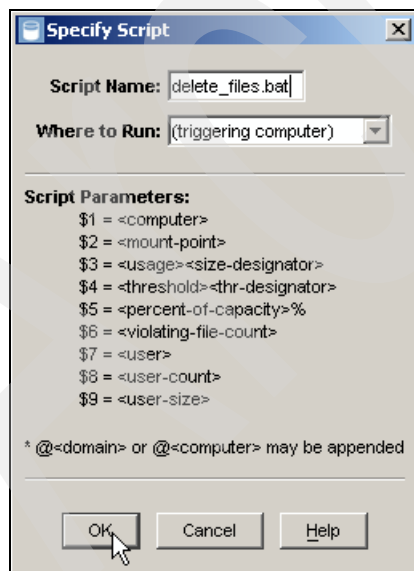

Figure 2-32 Define script name
6. In the Specify Script dialog box in Figure 2-32, enter the name of the script, which is `delete_files.bat` in this example. Then, ensure that **Where to Run** is set to **(triggering computer)**.